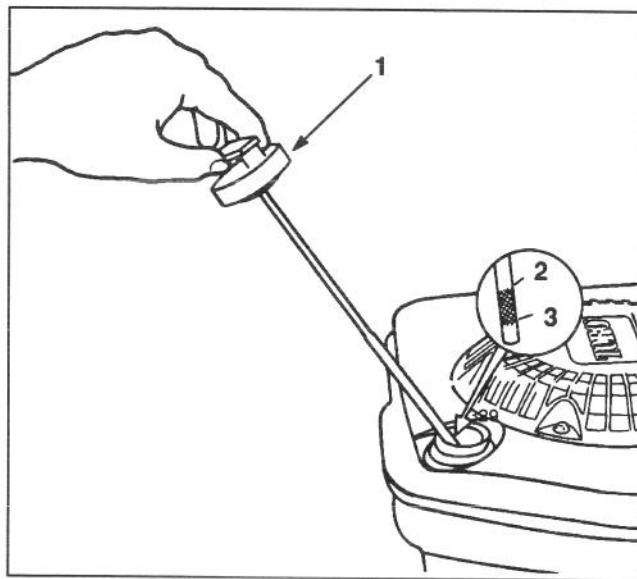

Figure 4
Before each use, ensure oil level is between FULL and ADD marks on dipstick (Fig. 4). Add oil if level is low.
3. Wipe dipstick and insert it into filler neck. Rotate cap clockwise 1/4 turn. Then remove dipstick and check level of oil on side of dipstick with FULL and ADD marks (Fig. 4). If level is low, add only enough oil to raise level to FULL mark on dipstick. **DO NOT FILL ABOVE FULL MARK BECAUSE ENGINE COULD BE DAMAGED WHEN STARTED. POUR OIL SLOWLY.**
1. CHECK OIL LEVEL—Maintain oil level between ADD and FULL marks as shown on dipstick (Fig. 4).